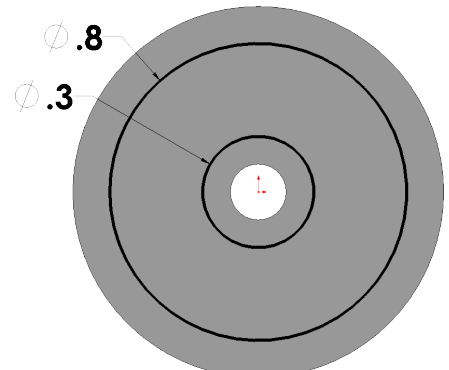

Fig. 6
Step 4. Sketch **two circles** starting at the Origin , **Fig. 6**.
Step 6. Dimension circle diameters, **Fig. 6**.